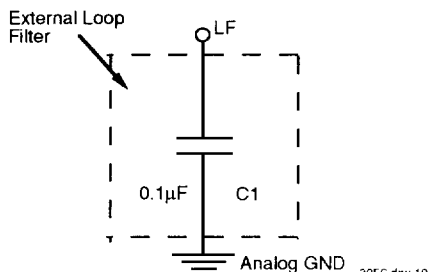

Figure 1a.
6. The tPD spec gives the limits of the phase offset between the SYNC input and the Q_FB output. Measurements were made with the external loop filter connection shown in Figure 1a.